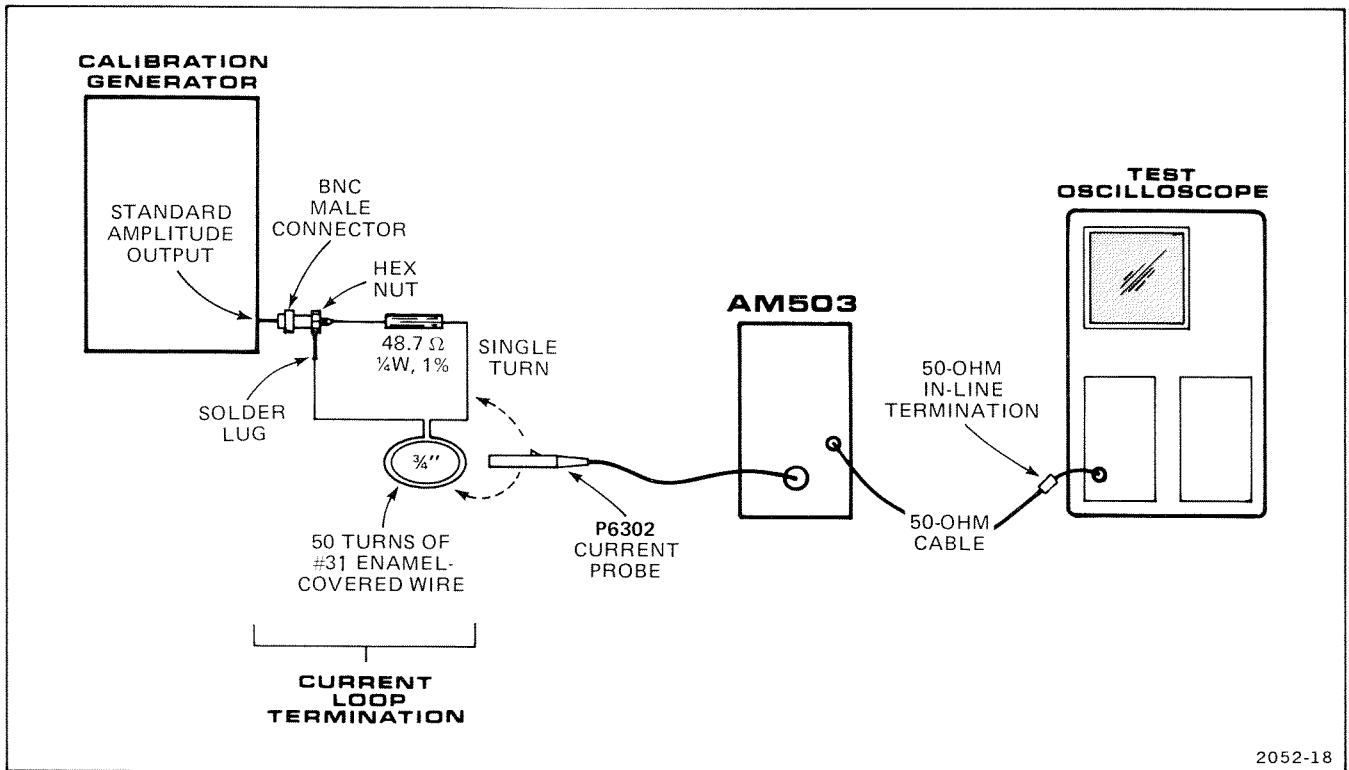

Fig. 5-5. Test setup for current/division check.
3. 50-Turn Current Loop (See Fig. 5-5)
See Fig. 5-5 for test setup.